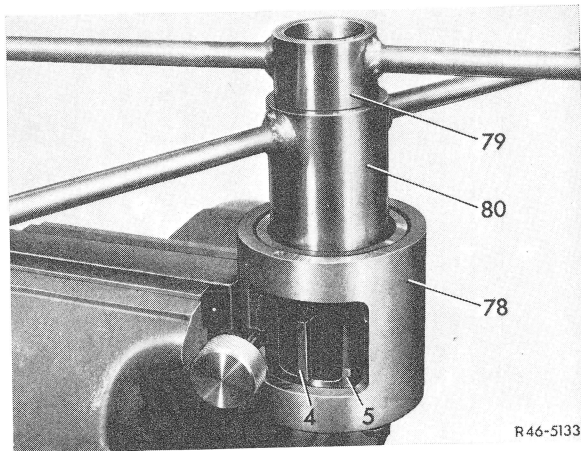

Fig. 20
21 Clamp working piston (5) into device (78), unscrew slot nut (39) with slot nut wrench (80), then unscrew screw cover (36) with hex. wrench (75) (Fig. 20 and 21).